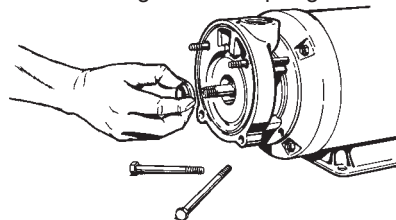

Figure 4-14
- c. Install the four (4) "O" rings (#8) on the two studs. This will help hold the bracket in place during the remainder of the assembly operation.
- c. It is generally easier to remove the entire head or sealing assembly from the spring and install it on the motor shaft. Refer to Figure 4-14. This assembly lifts out of the rotating element spring.
- e. Holding the head assembly between the thumb and index finger, with the sealing face pointing toward the stationary seat, slide the assembly over the motor shaft until it rests against the seat. Refer to Figure 4-14. A slight twisting motion will allow the assembly to slide more easily.